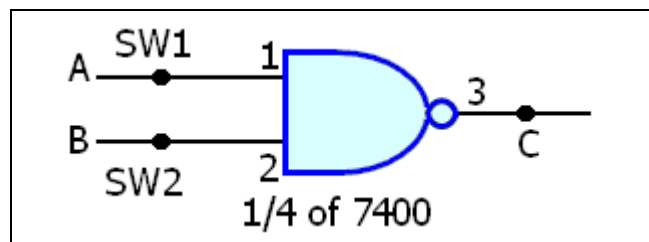

Fig. 1-4
8. Wire the circuit shown in Fig. 1-4. Remove the 1N4149 and 560Ω resistor load used in the previous steps. The inputs come from SW1 and SW2. You will measure the output voltage C at pin 3 of the 7400 IC.